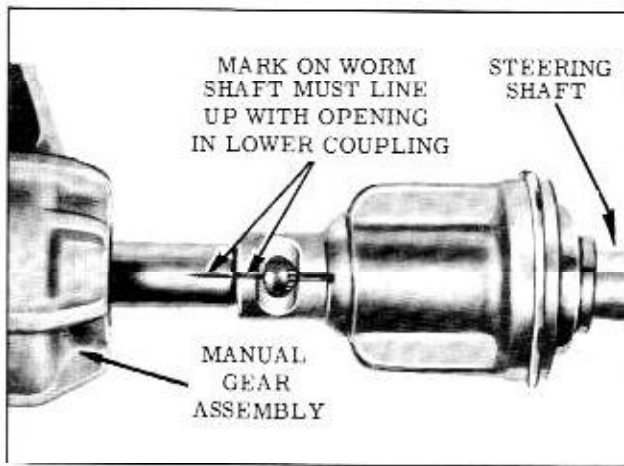

Fig. 4-10 Coupling to Steering Shaft Position
4. Lower the steering shaft (guide upper bearing into actuator assembly) and connect the coupling to the worm shaft matching up the alignment marks on the worm shaft with slot of clamp surface of coupling. (Fig. 4-10)